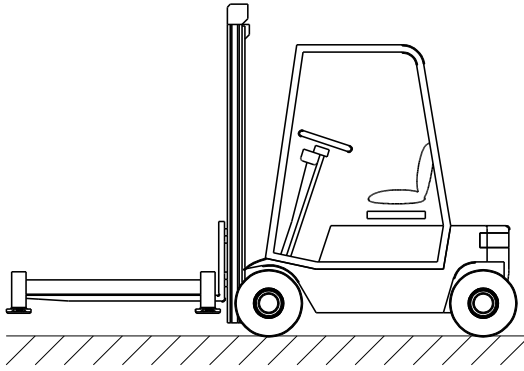
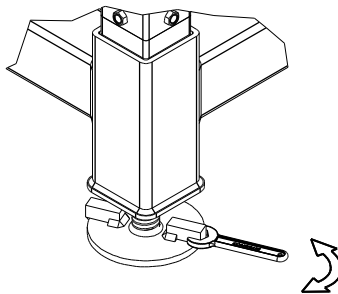

Figure 12. *Lifting of BOTTOM FRAME with truck.*
Figure 13. *Adjustment of FOOT height with a 22 mm spanner.*
1. Make sure that the ground, where the LOADING SYSTEM MkII is placed, is relatively flat. The LOADING SYSTEM BASE has got adjustable FEET which are designed to adjust within a 5 degree inclination. Use a fork lift truck to handle the BOTTOM FRAME, place the forks underneath the horizontal tubes and spread the forks apart prior to lifting, see Figure 12. Place the BOTTOM FRAME on the ground. Use a spirit level to make sure that the BOTTOM FRAME is level. If not, simply rotate the FEET by hand or use a 22 mm spanner to wrench, or a hammer to strike on the ADJUSTING BAR to adjust the FEET until the BOTTOM FRAME is level, see Figure 13.